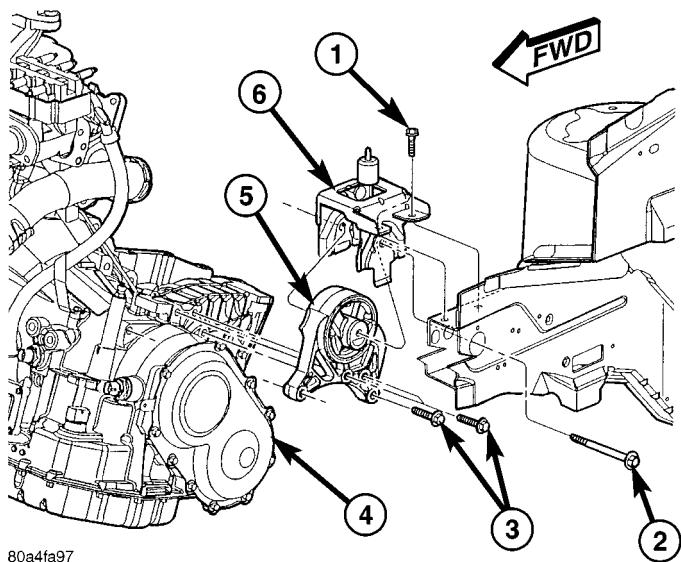
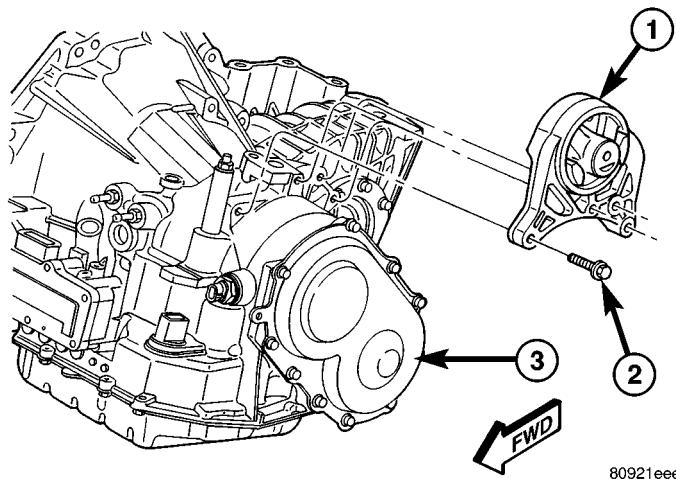

Fig. 89 LEFT MOUNT TO BRACKET
Fig. 90 LEFT MOUNT - 41TE TRANSAXLE
- (6) Remove the left mount through frame rail bolt (Fig. 89).
- (7) Lower transaxle for access to horizontal bolts.
- (8) Remove the horizontal bolts from the mount to the transaxle (Fig. 90).
- (1) Install left mount on transaxle (Fig. 90).
- (2) Raise transaxle with jack until left mount is in position.
- (3) Install left mount through bolt (Fig. 89).
- (4) Install left mount through bolt access cover.